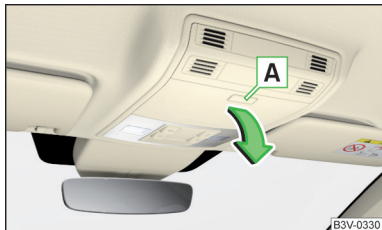

Fig. 91
- To **open**, press the -- button. The compartment folds in the direction of the arrow » Fig. 91.